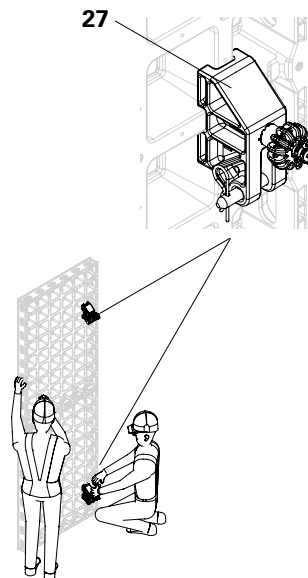

Fig. B1.03
1. Mount the DUO brace connector (27), see section B3. (Fig. B1.03)